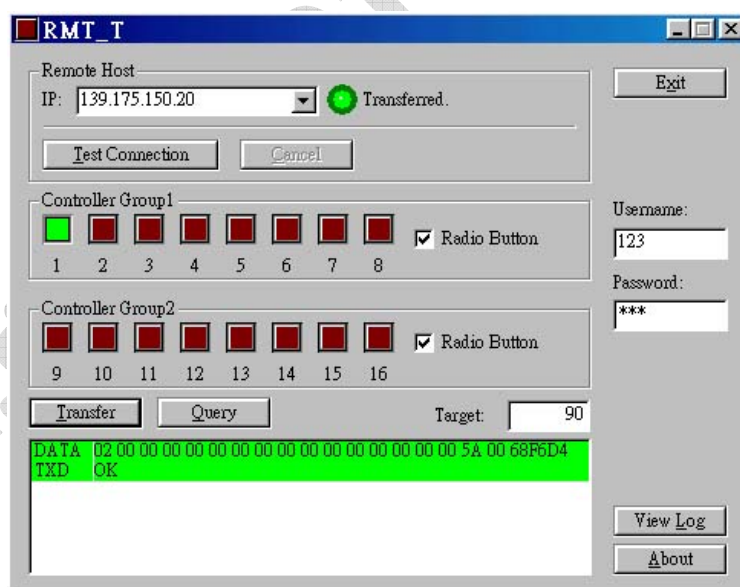

Fig. 15
- (6) Enter “90” into “Target” as Branch machine 90 and in controller group 1, click NO.1, press **Transfer** as Fig. 15 shows: